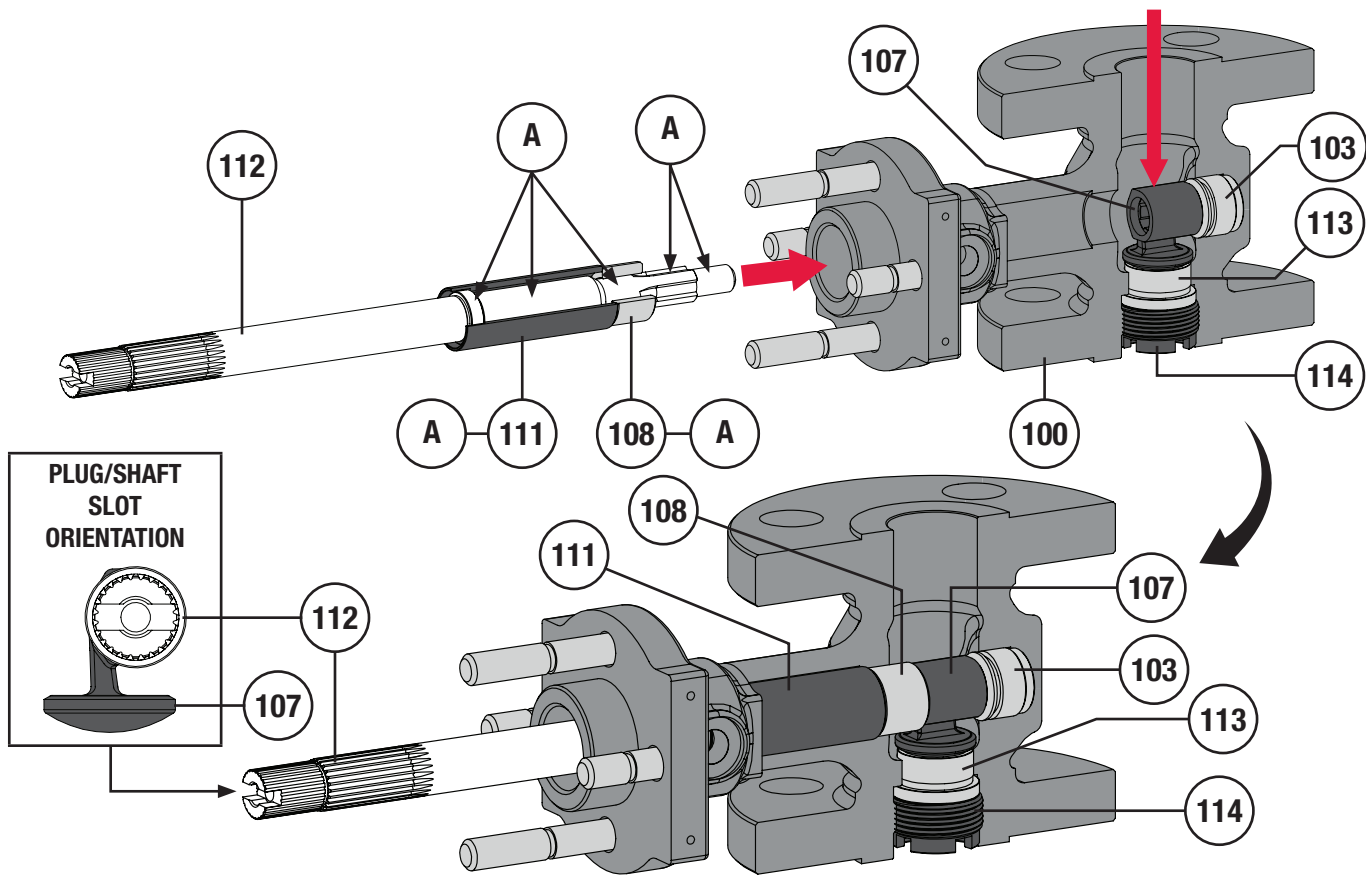

Figure 44 Valve Shaft Installation - Steps 4 to 6
- 4 Set the plug (Key 107) into the valve body (Key 100) so that it rests on the seat ring (Key 113). Refer to Figure 44.
- 5 Apply Permatex® Nickel Anti-Seize (Key A) to the splines and lower half of the shaft (Key 112) as shown in Figure 44. Install the upper guide bushing or seal bushing (Key 108 or 109) and spacer tube (Key 111) on the shaft.
- 6 Apply Permatex® Nickel Anti-Seize (Key A) to the outside surface of the upper bushing (Key 108 or 109) and spacer tube (Key 111). Install the shaft assembly as shown in Figure 44. **NOTE:** The slot in the end of the shaft should be orientated to indicate where the seating surface of the plug is located as shown.